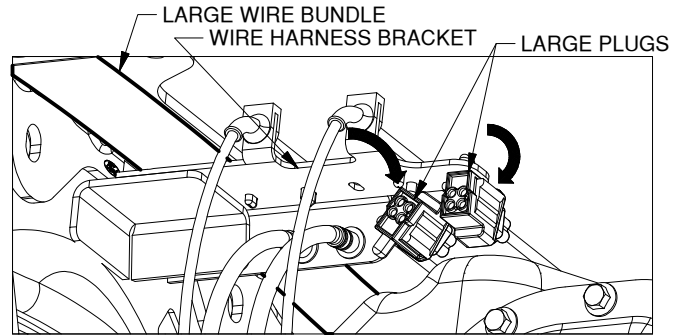
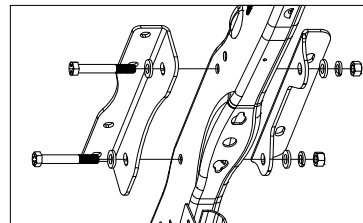

Figure B1: View looking up under the bed.
Figure B2: Driver side plates
2. **Relocate wiring.** Locate the wiring harness bracket under the bed and over the axle attached to the driver side frame, see Figure B1. On top of the bracket, there are two large wiring plugs. Remove the plugs from the bracket by pulling the plastic ratchet connector out of the bracket. Move both plugs below the bracket. Reattach the plug on the outer edge of the bracket to the underside of the bracket. If the frame has inside side plates welded to it, push the large wiring bundle beneath the top edge of the side plate if it is above the side plates.
3. **Install side plates.** Locate the outer, and if needed, the inner side plates. Install the side plates as shown in Figures B2 & B3, so that there is a side plate on the inside and outside of each frame member. Attach the side plates to the frame four places using a 5/8" x 4-1/2" cap screw, two flat washers, lock washer, and nut. Fasten hardware tight enough to hold the side plates against the frame but loose enough that they can still move up and down. Ensure that the large wiring bundle, shown in Figure B1, is under the driver side inner side plate.